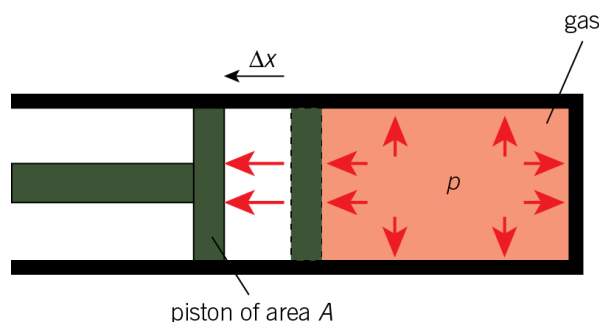

Figure 1 Work done by a gas
**Work is done by a gas when it expands.** When a gas expands, the forces due to its pressure push back the container walls, as in Figure 1. So the gas does work when it expands. For example, when the valve on a cylinder of carbon dioxide gas is released, the cylinder outlet releases a high-pressure jet of  $\text{CO}_2$  gas into the air. The gas does work to expand and push back the air. The  $\text{CO}_2$  uses up so much of its internal energy to expand that it cools and solidifies. You may have seen solid  $\text{CO}_2$  produced in this way for use in cloud chambers.
Consider a tube of gas at pressure  $p$  trapped by a piston, as in Figure 1.